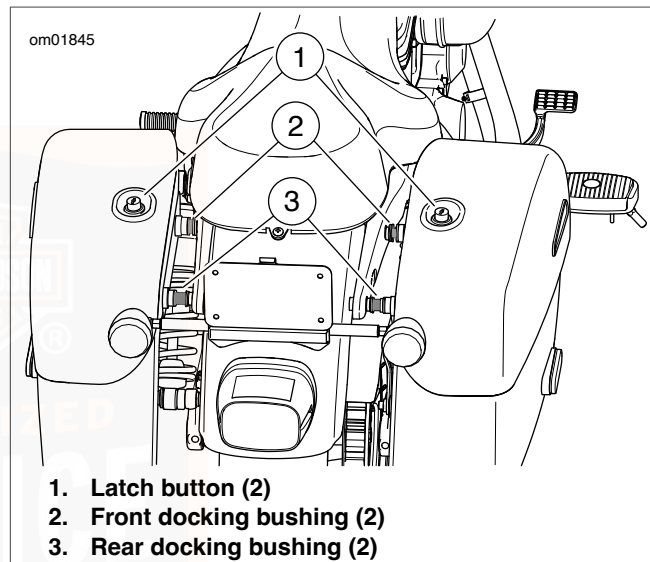

Figure 31. Saddlebags: XL1200T
1. See Figure 31. Unlock saddlebag with the key.
2. Press and release the latch button (1).
1. See Figure 31. Close the saddlebag lid.